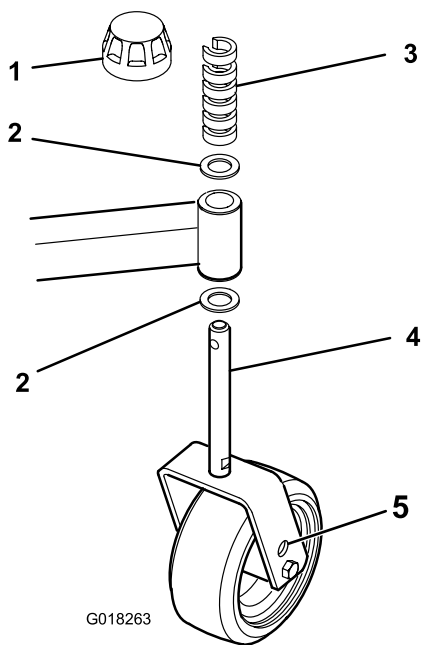

Figure 18
6. Adjust the shims, on the front or rear castor arms, to attain the required cutting unit pitch (Figure 18).